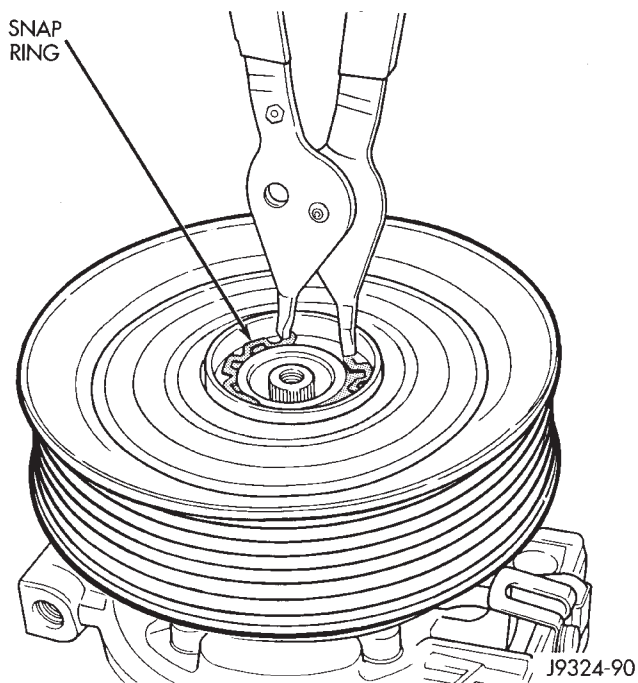
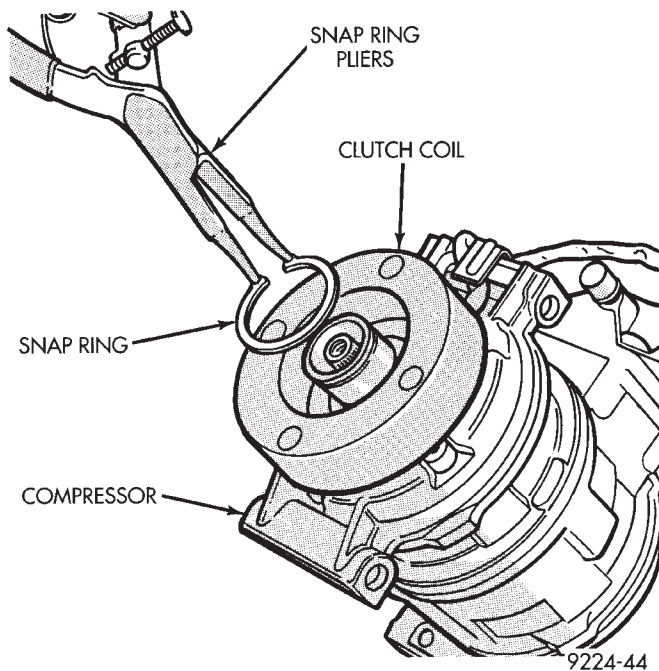

Fig. 23 Pulley Snap Ring Remove/Install
Fig. 24 Clutch Coil Snap Ring Remove/Install
(4) Remove the pulley retaining snap ring with snap ring pliers (Special Tool C-4574) and slide the pulley assembly off of the compressor (Fig. 23).
(5) Unplug the clutch coil wire harness connector. Remove the screw and retainer from the clutch coil wire harness on the compressor front housing.
(6) Remove the snap ring from the compressor hub and remove the clutch field coil (Fig. 24). Slide the clutch field coil off of the compressor hub.